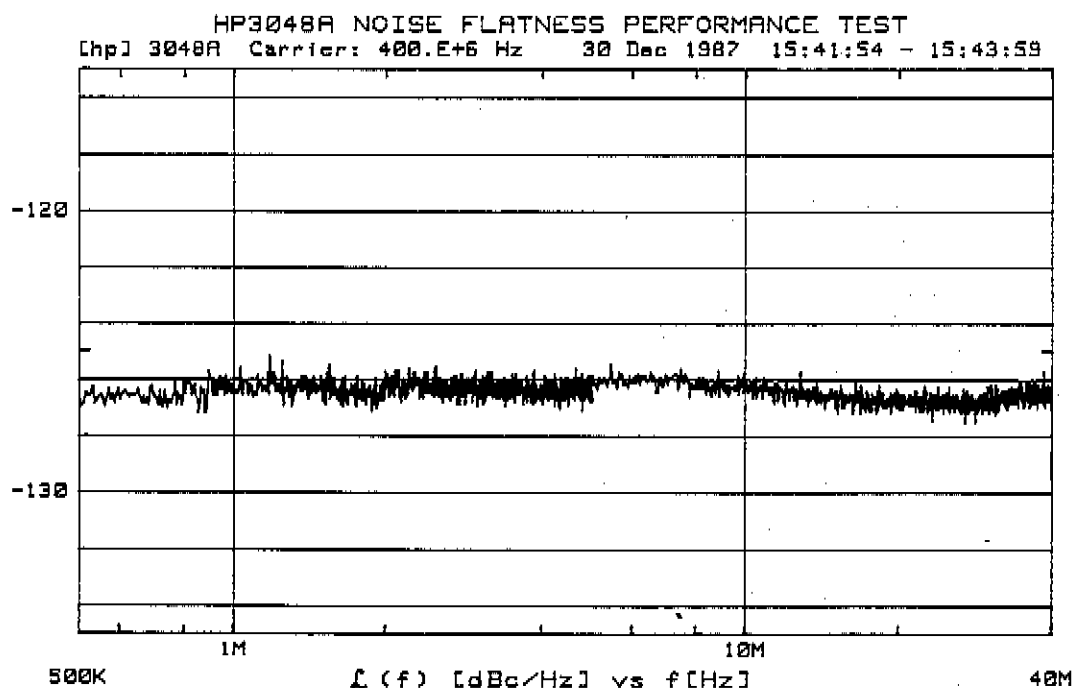

Figure 6. Typical Noise Flatness Test Results.
7. Press the **Proceed** softkey. The measurement should proceed automatically without error messages (but see the following note) and the measured noise should be similar to that shown in Figure 6. (The measurement takes about 5 minutes depending on the controller.)